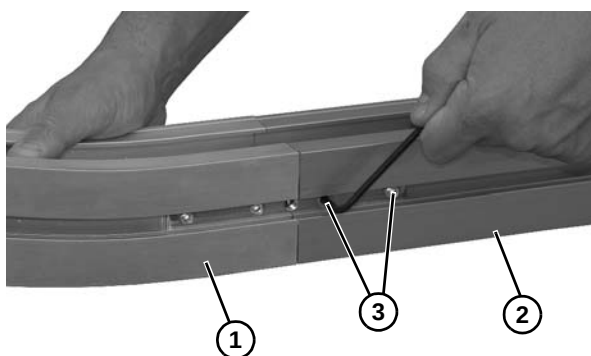

Figure 6
1. Join knuckle conveyor frame section (**Figure 6, item 1**), and conveyor frame (**Figure 6, item 2**) and secure with two set screws (**Figure 6, item 3**) on both sides. Tighten all set screws 1/4 turn past contact with frame.